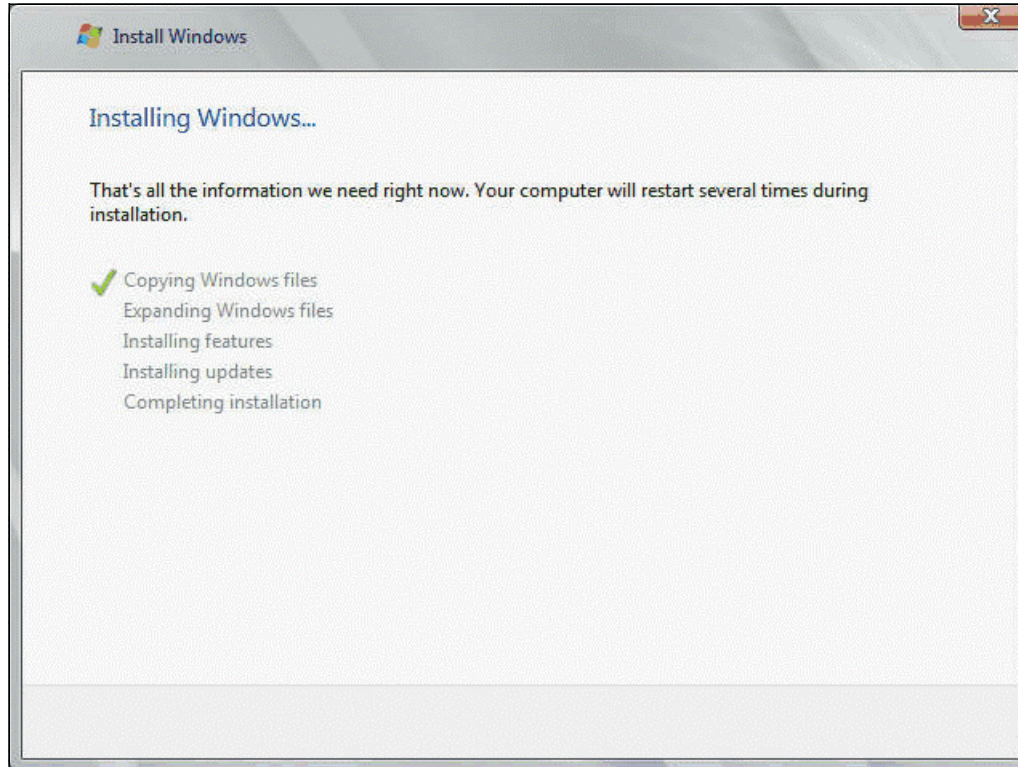

Figure 5-77 Installing Windows 2008
9. Create **New** partition. Next, **Format** the drive and continue with the installation of Windows 2008, as shown in Figure 5-77.